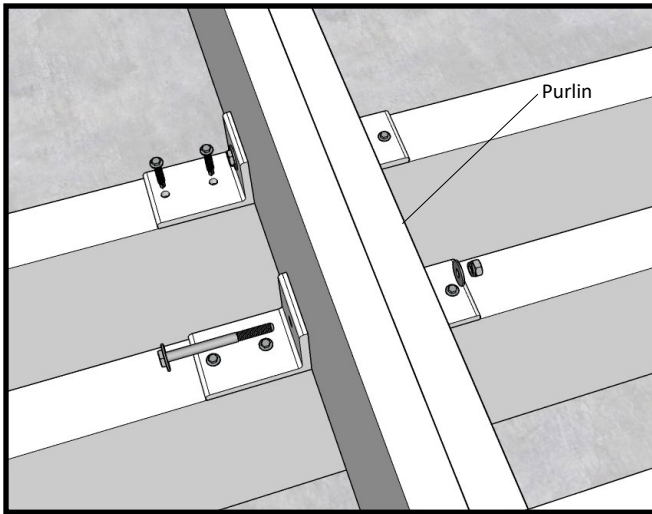

Fig 7
12. Repeat this step where indicated in the drawings. (see fig 7 & 8)